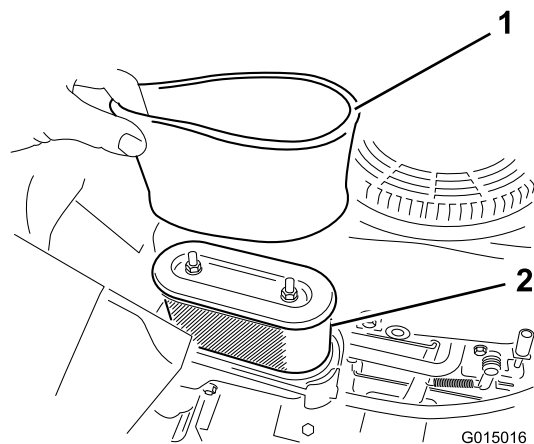

Figure 28
- Carefully remove the foam and paper filter elements from the air cleaner housing (Figure 28).
1. Install the foam filter onto the paper filter (Figure 28).